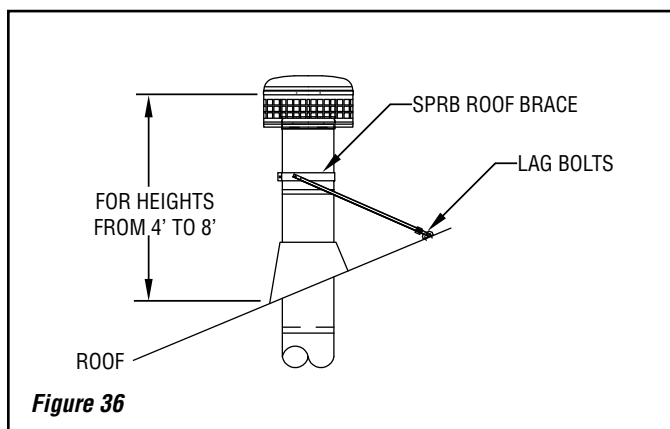
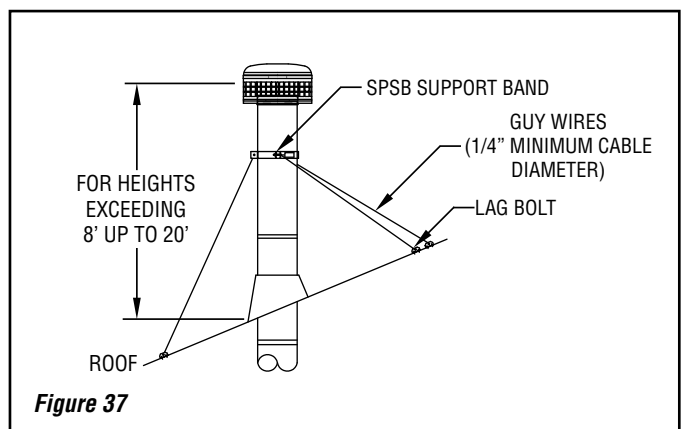

Figure 36
Figure 37
Select the proper support for your application-using either a roof brace (**Figure 36**), or a support band with guy wires (**Figure 37**)
3. Position the support legs as shown in **Figure 36**. The length of the support legs can be adjusted by loosening the bolt on the leg clamp.